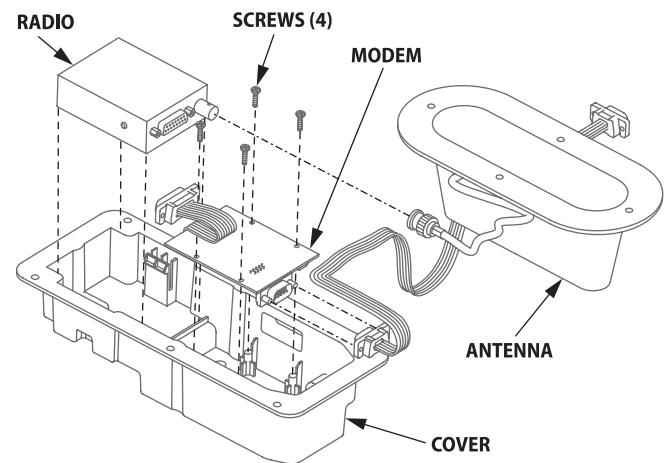

Figure 11A
1. Slide the radio unit into its mounting location on the radio cover, making sure that it snaps into place (see Figure 11A).